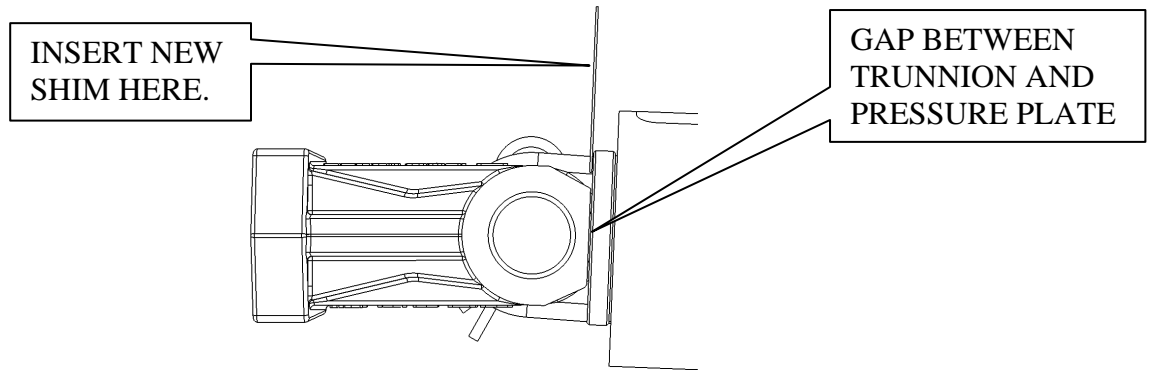
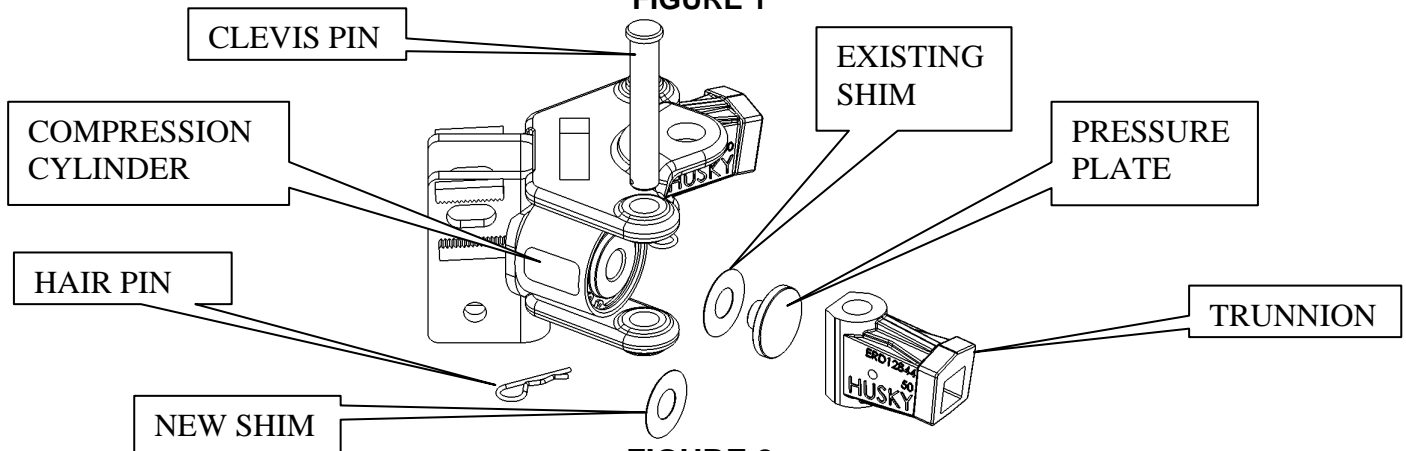

FIGURE 1
FIGURE 2
1. Attempt to insert (1) SHIM item #19 between the pressure plate item #4 and the backside of the trunnion (see FIGURE 1.) If it can pass all the way through from one side to the other then you need to add this shim behind the pressure plate. Otherwise check other side and proceed with the following steps if required. Refer to FIGURE 2 for proper assembly.